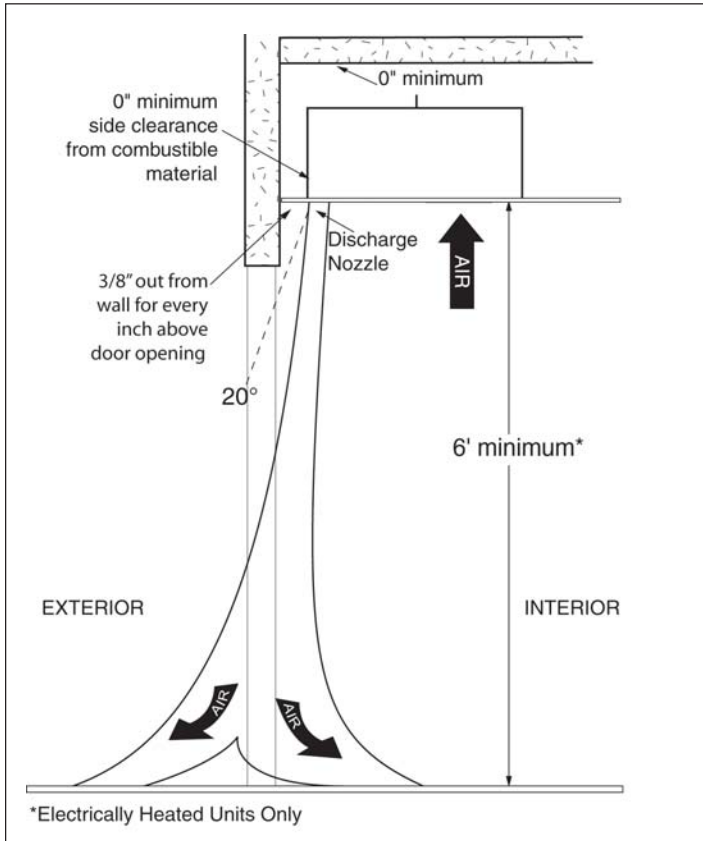

FIGURE 1
- When determining the mounting location for the unit(s), make sure that nothing interferes with the curtain of air developed when the discharge vanes are directed from 0° to 20° toward the door opening. If the air stream strikes any obstruction (the top edge of the doorway, a door opening device, etc.), the effectiveness of the unit will be greatly reduced. **See FIGURE 1**